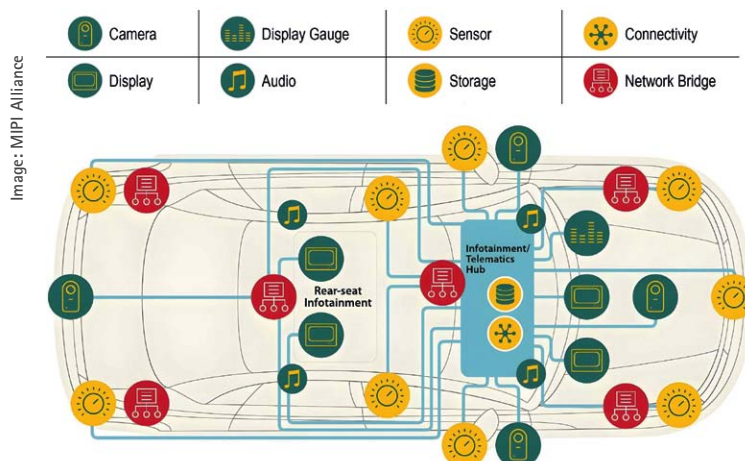

Figure 1: Distribution of cameras and displays in modern vehicles
The proliferation of cameras and displays in modern vehicles has revolutionized the driving experience, facilitating advanced safety features, enhanced navigation systems, and new entertainment options (Fig. 1). However, the growing number of these components poses a significant challenge for car manufacturers: ensuring seamless connectivity and interoperability between the various systems. One of the biggest challenges is managing local connectivity within the vehicle.
SEN6x from Sensirion combines multiple sensor technologies in one compact package and can measure up to nine environmental parameters – particulate matter (PM1, PM2.5, PM4, and PM10), humidity (relative humidity, RH), temperature (T), VOC index, NO_x index, CO₂, or HCHO (Fig. 1). The humidity and temperature components provide precise measured values for a healthy and pleasant indoor climate. Additionally, integrated compensation mechanisms help offset temperature and humidity fluctuations that impact the measuring accuracy.
Figure 1: Sensing opens up new possibilities to create smarter devices that improve our comfort and well-being as well as increase energy efficiency in a wide variety of applications.